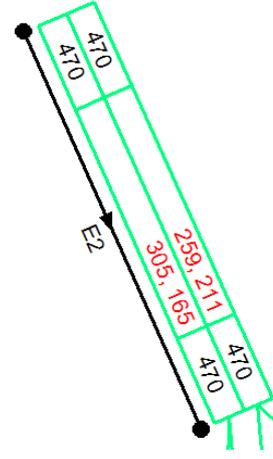

Figure 4.15 : Lane Flow Components Aggregated by OD Movement
- Change the Lane Flow Aggregation setting to 'OD'. The Lane Flow Components displayed in Arm E2 change to reflect the higher level of aggregation as shown in Figure 4.15. In this case the two Routes carrying 83 PCU are both between Zones B and A and are therefore aggregated together to show a total flow of 165 PCU. (The one PCU difference is due to rounding effects).